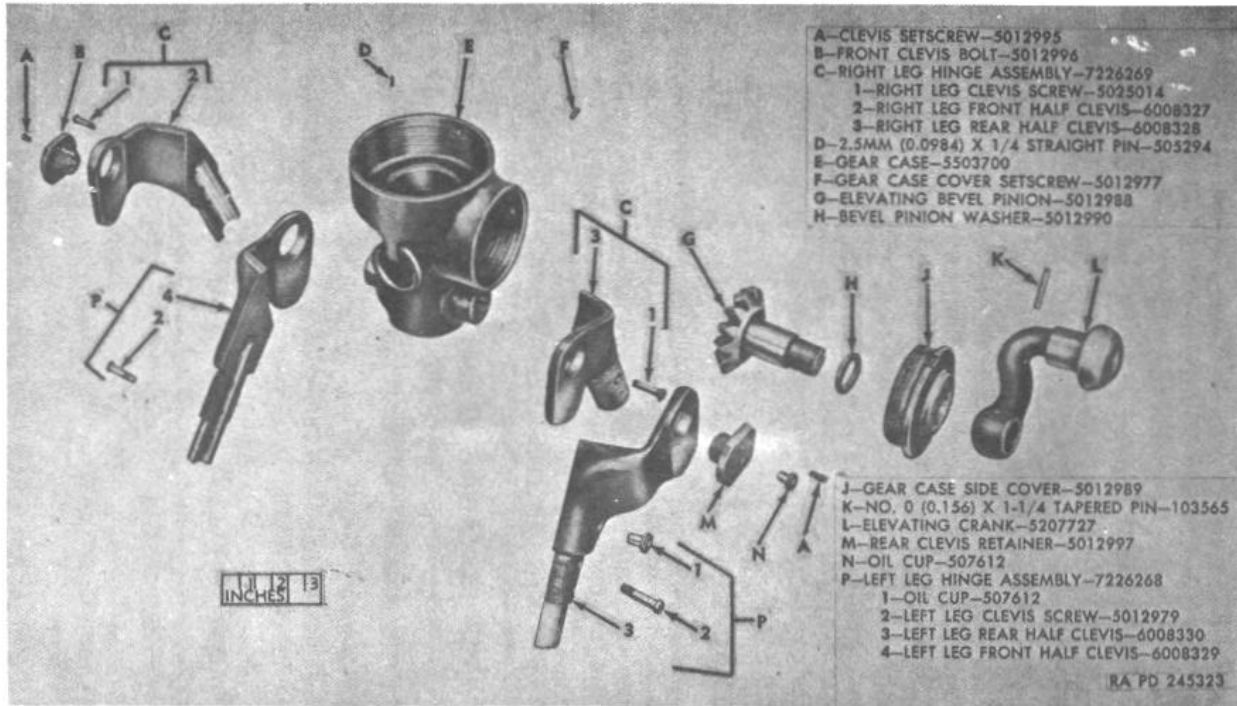

Figure 38. Gear case group-exploded view.
**Note. The key letters shown below in h and i in parentheses refer to figure 38.**
h. Assemble devises (C2, C3, P3, and P4) to gear case (E) and secure with rear clevis retainer (M) and right and left leg clevis screws (C1 and P2).